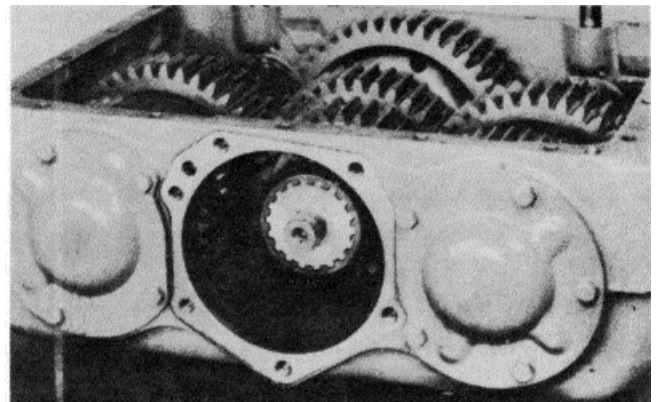

Figure 9B-5. Removing Front Bearing Caps
4. Cut and remove the lockwire from the capscrews on the front of the countershafts. Remove the capscrews and bearing retaining plates, Figure 9B-6.